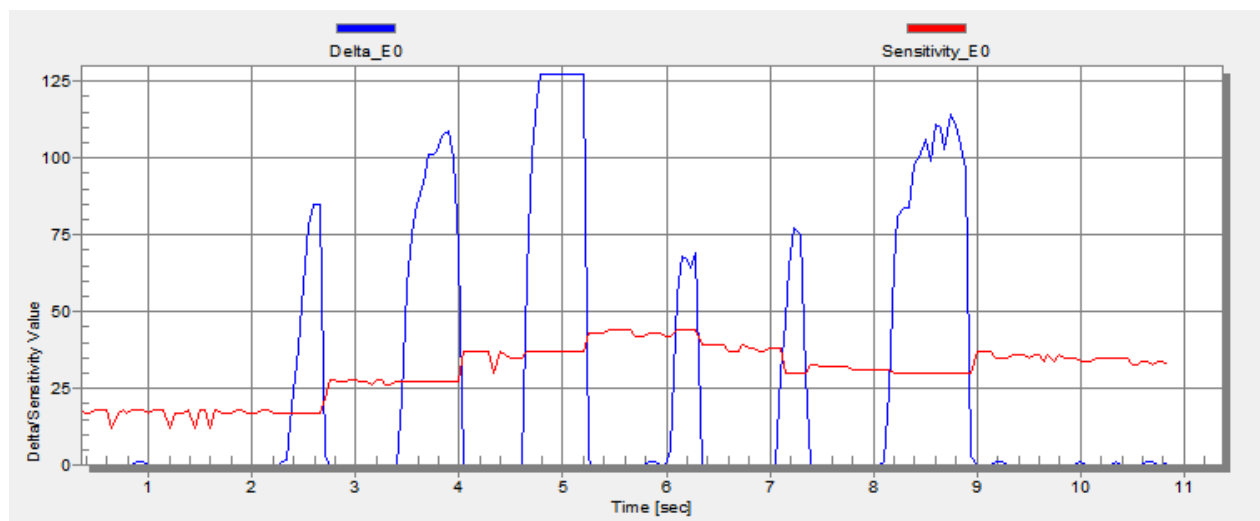

Figure 5-9. Automatic Sensitivity Calibration function
If the sample is reported as a valid sample, the module calculates delta value from actual signal value and baseline value. The delta value is compared with the threshold value defined in the sensitivity register. Based on the result, it determines the electrode's state, which can be released, touched, changing from released to touch, and changing from touched to release. Figure 5-9 shows example of the basic key detector function.
1. **The ASC enabled without Sensitivity configuration** — The feature automatically manages sensitivity for each electrode during the overall run of the application. Figure 5-9 shows the ASC operation.